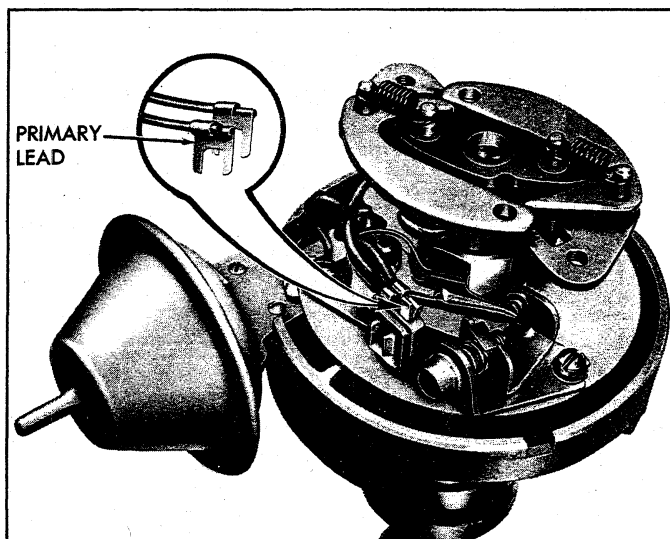

Fig. 6i—Distributor Lead Arrangements
4. Remove the primary and condenser leads from their nylon insulated connection (fig. 6i) in contact set.
CAUTION: Install the primary and condenser leads as shown in Figure 6i. Improper installation will cause lead interference between the cap, weight base and breaker advance plate.
2. Loosen condenser lead attaching screw (fig. 6i) and lift out condenser lead clip.
NOTE: Make sure that new condenser lead is installed in proper position (fig. 6i).